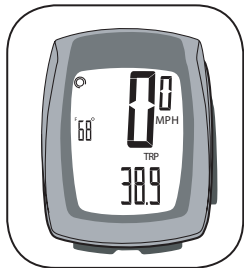

Figure 16- TRP screen
1. Cycle **Mode** to TRP (Figure 16).
If the computer is giving erratic information, the computer or heart rate strap battery may be running low on power (normally accompanied by the low battery icon, Figure 16). Replace the batteries whenever the computer malfunctions, or every 6 months. When purchasing new batteries, it is best to take the old batteries with you. However, this is the generic description for the proper battery: